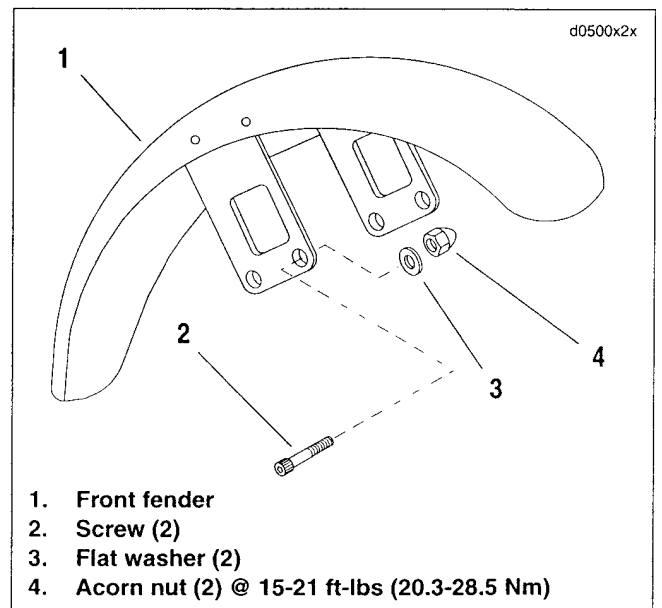

Figure 2-117. Front Fender: FXDWG
- b. For FXDWG models, see Figure 2-117. Remove the fender mounting screws (2), washers (3) and acorn nuts (4) on each side.
- b. For FXDWG models, see Figure 2-117. Install screws (2) through fender mounting holes in front fork legs. Install washers (3) and thread acorn nuts (4) onto screws.